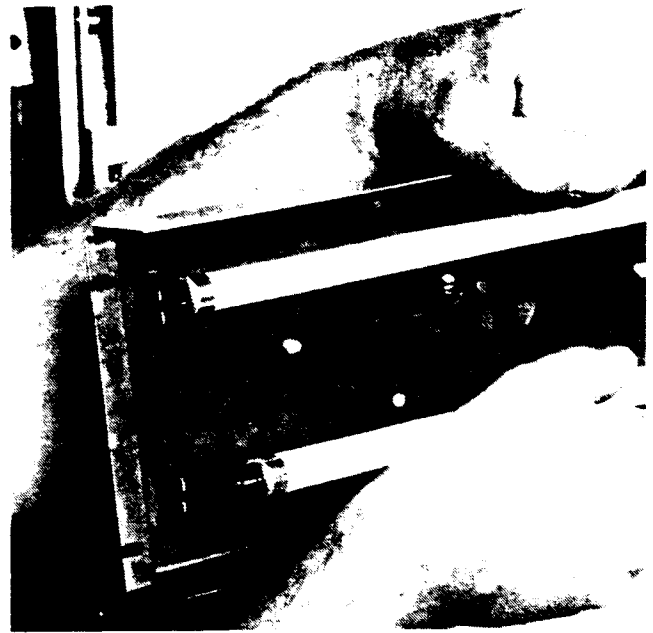

Figure 4-17
- 4) Turn the light 1/2 turn or until the dual pins on the light are parallel with the opening in the lamp holder. See Figure 4-17.